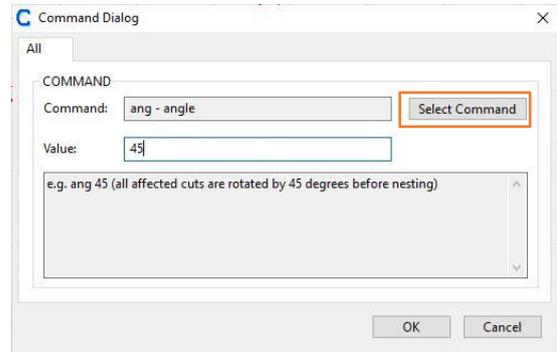

Figure 84
- b. Click **Select Command** (Figure 84).
- d. Enter "45" and confirm with **OK** (Figure 84).